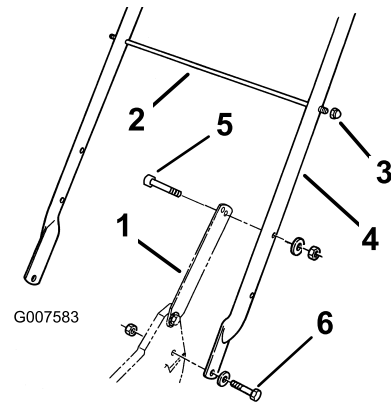

Figure 3
1. Mount the handle to the outside of the machine housing (using the bottom hole) with 2 bolts (5/16 x 1-1/4 inches), washers, and thin locknuts (5/16 inch) (Figure 3).
2. Secure the handle latches to the handle with 2 bolts (5/16 x 1-1/2 inches), washers, and locknuts (5/16 inch) (Figure 3).
3. Slide the bag support rod through the second from the top mounting holes in the handle and secure each end with a cap locknut (Figure 3).